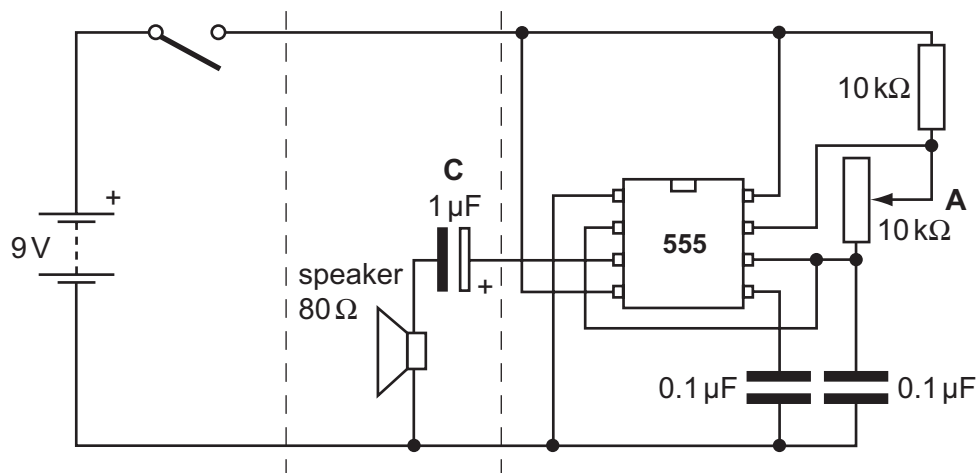

Fig. 2
- (b) After testing the simple circuit it is decided to use a 555 timer circuit as shown in Fig. 2.
(iii) Label the 555 IC in Fig. 2 to show the pin numbers. [3]
(c) For the circuit shown in Fig. 2 complete the block diagram below.
(ii) Identify a component in the circuit shown in Fig. 2 that can help to adjust the time delay to bring it nearer to the required value.